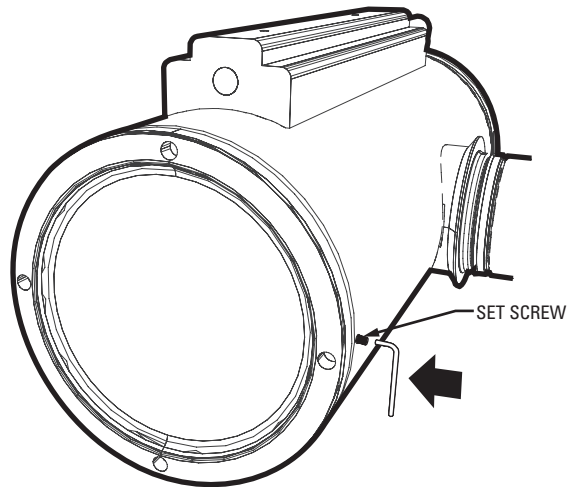

Figure 4. Loosen Set Screw
1. Refer to Figure 4. Loosen the set screw at the back of the enclosure with the provided 1.5 mm Allen wrench.